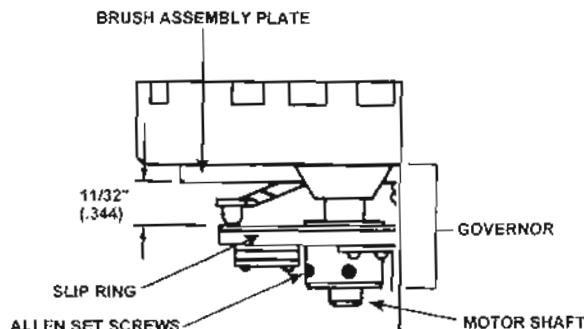

Figure 3-10. Governor brush assembly clearance.
(10) Turn the centrifuge over to rest on its cover.
(11) Remove the slotted screw fastening the nameplate assembly temporarily into place.
(12) Reconnect the electrical terminal connector to the timer "L2" terminal that also connects with the motor.
(13) Strip 3/8-inch insulation from the two black wires connecting the motor to the brake switch.
(14) Connect the two black wires using an electrical terminal connector.
(15) Bundle the electrical wires together and refasten them with a plastic electrical cable tie.
(16) Position the nameplate assembly into place and reinstall the four slotted screws.
(17) Install a new brush assembly into place and fasten it to the motor housing by reinstalling the two hex nuts.
(18) Reconnect the two electrical terminal connectors while following the previously recorded wire colors and connector locations.
(19) Reinstall the governor onto the motor shaft and slightly tighten the Allen set screws.
(20) Check for a $1\frac{1}{32}$ -inch clearance between the lower brush assembly plate and the governor slip rings (fig 3-10).